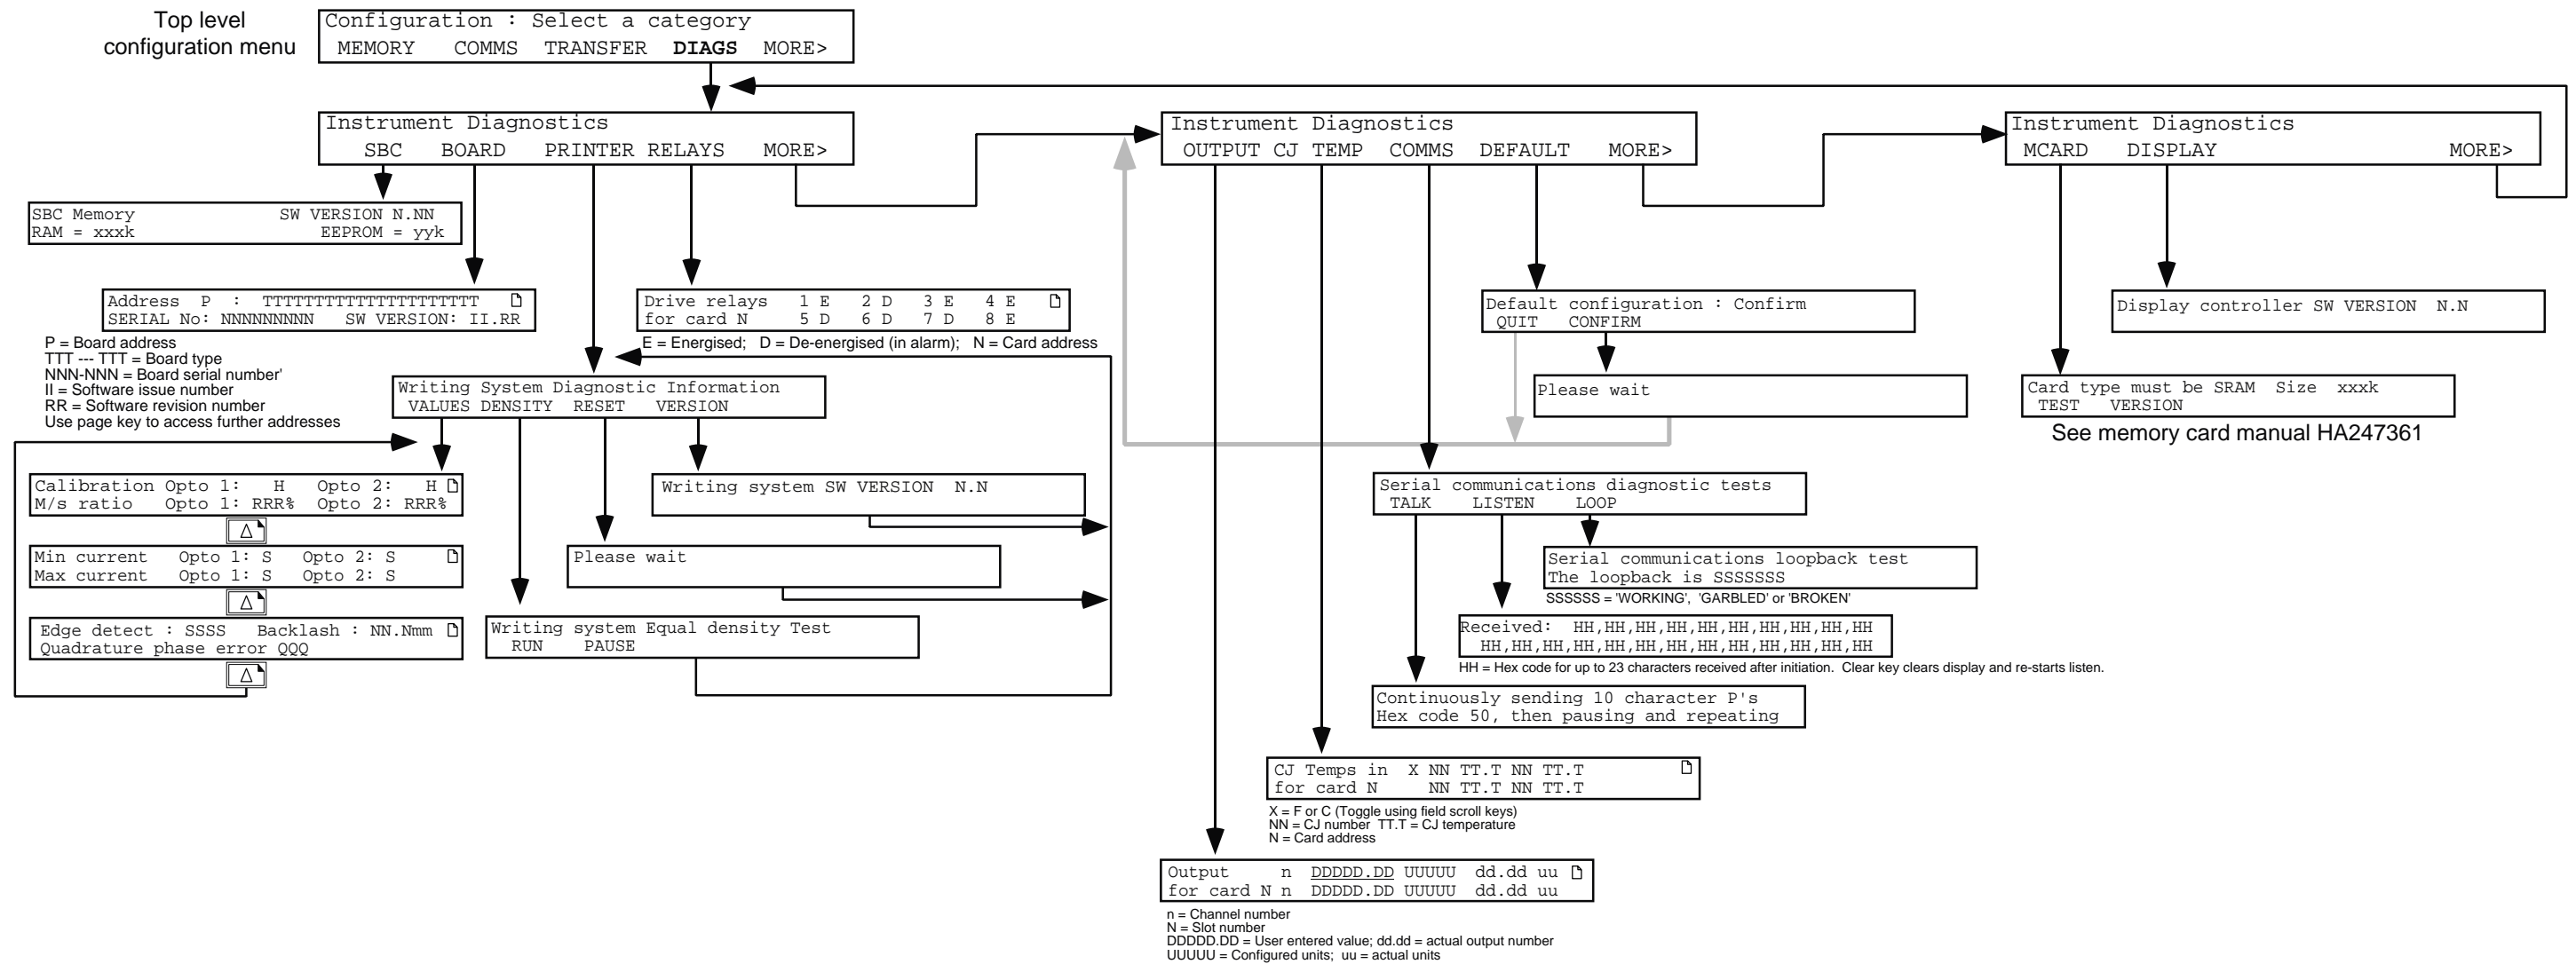

Figure 4.12 Diagnostics menu organisation
As shown in figure 4.12, operation of the DIAGS softkey calls the first of the diagnostics pages to the display. The following notes are intended to clarify the information contained in the figure.
The second page, accessed by the page scroll up key, shows whether the maximum and minimum values for the opto currents are acceptable. The reported value (S in figure 4.12) is either N (opto is working correctly), or Y (opto or feed-back strip is faulty).
- The edge detector is working correctly (SSSS=Good) or is faulty (SSSS=Bad) (SSSS in figure 4.12.)
- Quadrature phase error in degrees, between -90 and +90 (QQQ in figure 4.12).